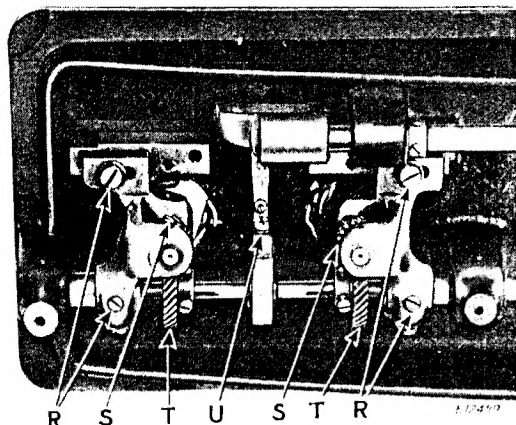

Fig. 19. Adjustment of Hook Saddles
Loosen the two screws in the hub of each hook driving gear (T, Fig. 19) and tap this gear to the right or left on the hook driving shaft until the point of the hook is at the center of the needle. Tapping to the right gives an earlier hook timing, and to the left a later hook timing. Securely tighten the two set screws in each gear (T).
Turn the balance wheel over toward you until the points of the sewing hooks are at the centers of the needles. Loosen the four screws (R, Fig. 19) underneath the bed of the machine and move the hook saddles to the right or left, as may be required, until the points of the hooks are as close to the needles as possible without striking them, then securely tighten the four screws (R).
Remove the throat plate, feed dog and the bobbin case openers. Loosen the two screws in each hook shaft gear (S, Fig. 19) and lift out the sewing hooks.
Remove the throat plate; clean the lint and dust from between the feed points and replace the throat plate; tip the machine back and turn the balance wheel towards you until the feed dog is at its highest position; loosen screw (U, Fig. 19) in the feed lifting cam fork on the feed bar and raise or lower the feed dog, as may be required, and retighten the screw (U).